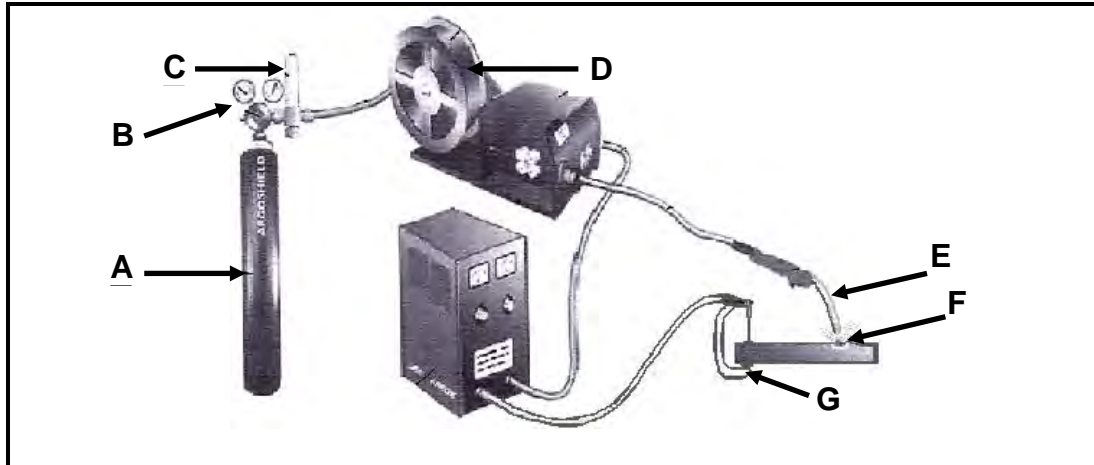

FIGURE 6.1
6.1 FIGURE 6.1 shows components of welding equipment. Answer the questions that follow.
6.1.1 Identify the type of equipment shown in FIGURE 6.1. (1)